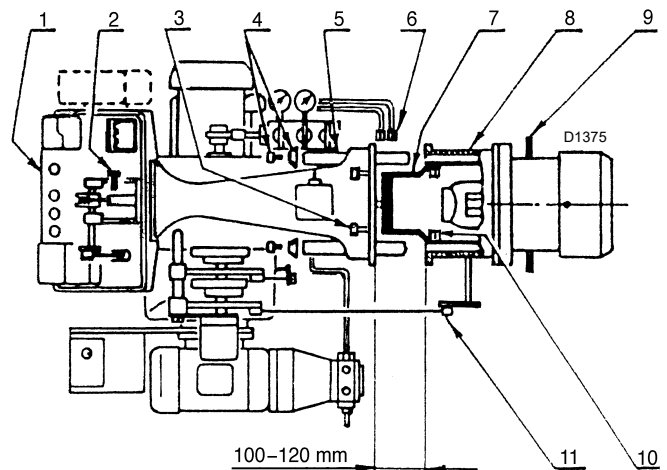

Fig. 42
- To separate the burner from the combustion head, proceed as follows (Fig. 42):